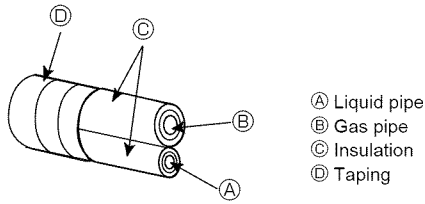
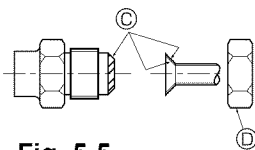

Fig. 5-4
Fig. 5-5
5.5. Connecting pipes (Fig. 5-4) (Fig. 5-5)
When commercially available copper pipes are used, insulate both the liquid and gas pipes separately with commercially available insulation materials (heat-resistant to 100 °C, 212 °F or more, thickness of 12 mm, 1/2 inch or more). (Fig. 5-4)
- The indoor parts of the drain pipe should be wrapped with polyethylene foam insulation materials (specific gravity of 0.03, thickness of 9 mm (3/8 inch) or more). (Fig. 5-5)
- Apply thin layer of refrigerant oil to pipe and joint seating surface before tightening flare nut. ④
- Use two wrenches to tighten piping connections. ⑤
- Apply refrigerating machine oil over the entire flare seat surface. ③
- Use the flare nuts as follows. ⑥
④ (Fig. 5-5)